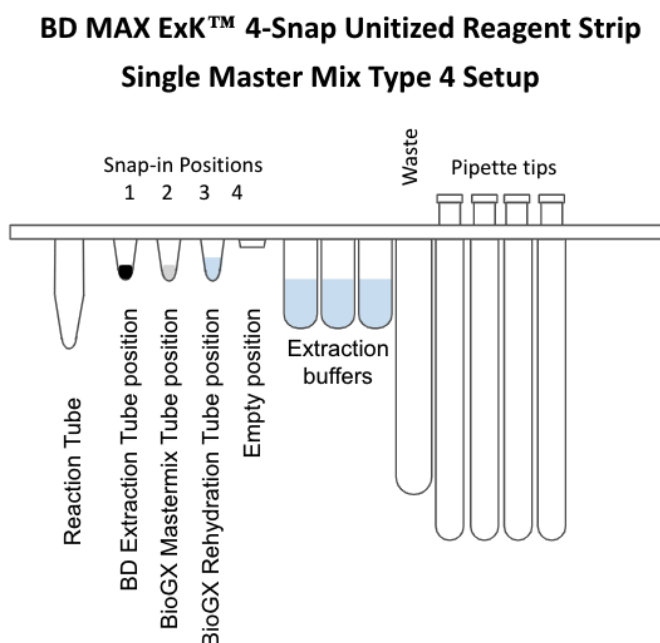

Figure 1. Diagram of BD MAX™ ExK™ 4-snap Unitized Reagent Strips
3. Snap one BD MAX™ ExK™ DNA Extraction tube into snap-in position 1 (Snap-1) of each extraction strip (**Figure 1**).